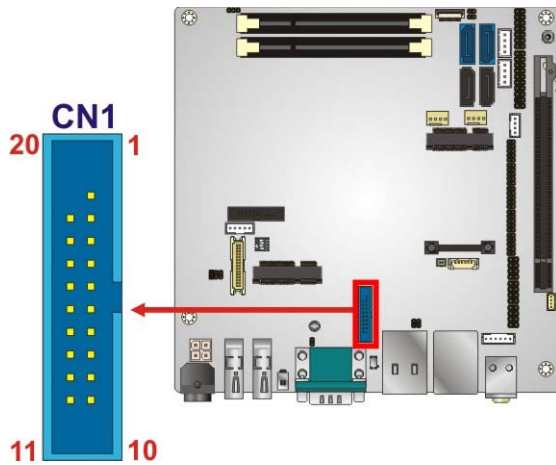

Figure 3-32: USB 3.0 Connector Location
- CN Location:** See **Figure 3-32**